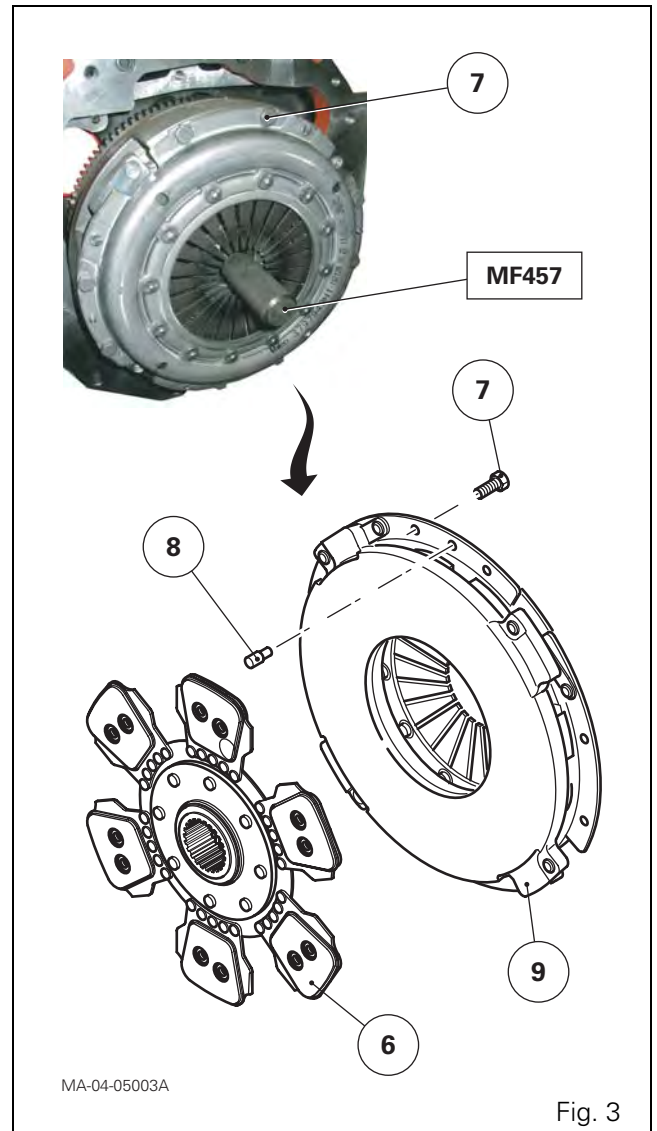

Fig. 3
Removal (Fig. 3)
8. Check that the dowels (8) are present on the engine flywheel (Fig. 3).
- the friction disc (6),
- the clutch mechanism (9).